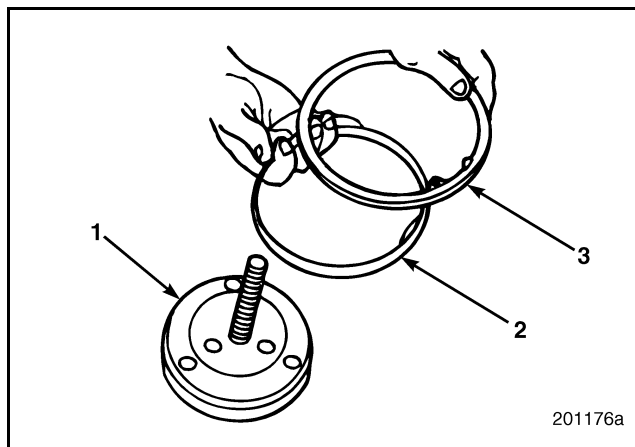

Figure 252 — Crankshaft Rear Oil Seal Installation
2. Position the oil seal (2) and installation sleeve (3) onto the recessed side of J 37716-B oil seal installation tool adapter plate (1) as shown in Figure 252. The single-lip seal must be installed with the lip toward the engine.